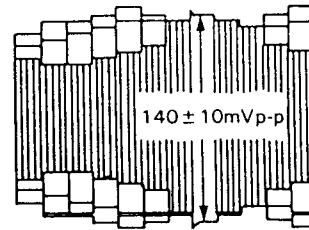

Figure 2-9.
4. Adjust R3304 (recording FM control) so that the sync tip be  $140 \pm 10mVp-p$  as shown in Fig.2-9.